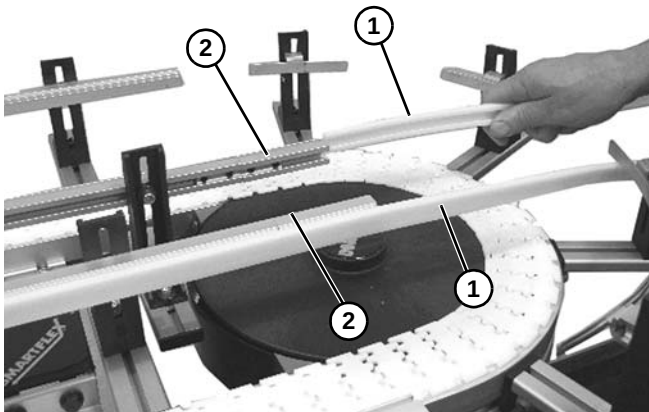

Figure 46
8. On the inside of the curve, install inner guiding (**Figure 46, item 1**) onto both of the inner guide rails (**Figure 46, item 2**).